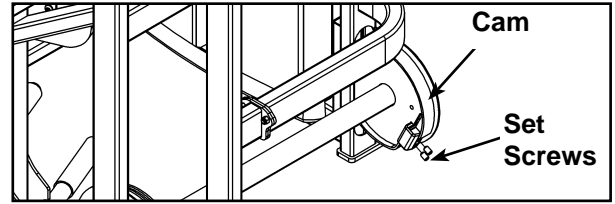

Figure 1
D. Rotate cam and disconnect weight stack belt from cam (by loosening the two set screws on the belt clamp with a 7/32" Allen wrench). See Figure 1.
K. Connect the weight stack belt to the belt clamp of cam (removed in step 4D). See Figure 1.